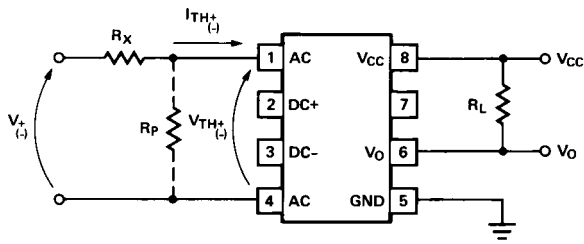

Figure 13. External Threshold Voltage Level Selection.
The HCPL-0370/3700/3760 optocouplers have internal temperature compensated, predictable voltage and current threshold points which allow selection of an external resistor, R_X , to determine larger external threshold voltage levels. For a desired external threshold voltage, V_{\pm} , a corresponding typical value of R_X can be obtained from Figure 12. Specific calculation of R_X can be obtained from Equation (1). Specification of both V_+ and V_- voltage threshold levels simultaneously can be obtained by the use of R_X and R_P as shown in Figure 13 and determined by Equations (2) and (3).